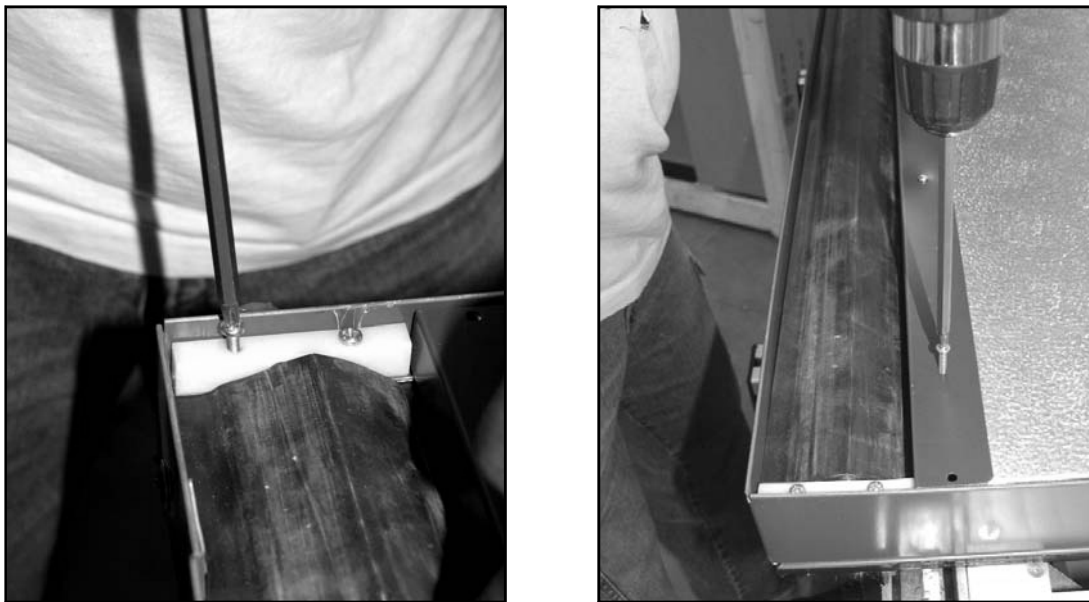

Fig. 6.1.5 – Securing stagnation-control hinge blocks and damper channel.
6. Ensure damper is properly aligned with collector frame and secure hinge blocks (Fig. 6.1.5). Secure damper channel with long self-drilling screws (Fig. 6.1.5). Note these screws pass through outer and inner walls of damper channel, sandwiching collector backing.